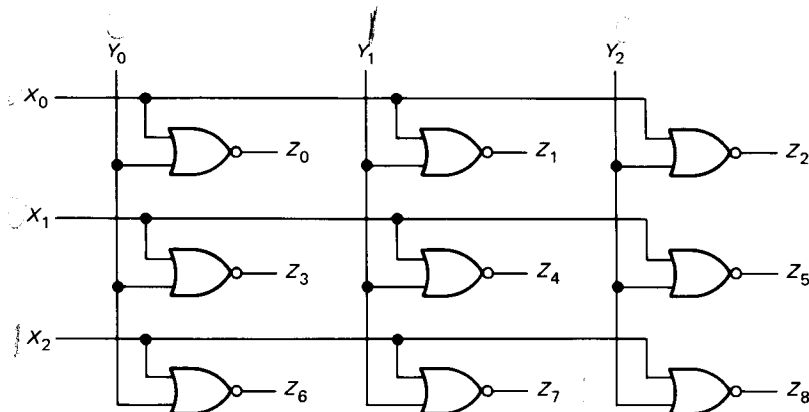

Fig. 3-26 NOR-gate crossbar switch.
- 3-3. Figure 3-26 shows a NOR-gate crossbar switch. If all  $X$  and  $Y$  inputs are high, which of the  $Z$  outputs is high? If all inputs are high except  $X_1$  and  $Y_2$ , which  $Z$  output is high? If  $X_2$  and  $Y_0$  are low and all other inputs are high, which  $Z$  output is high?
- 3-4. In Fig. 3-26, you want  $Z_7$  to be 1 and all other  $Z$  outputs to be 0. What values must the  $X$  and  $Y$  inputs have?
3-17. Suppose the NOR gates of Fig. 3-26 are replaced by NAND gates. Then you've got a NAND-gate crossbar switch.